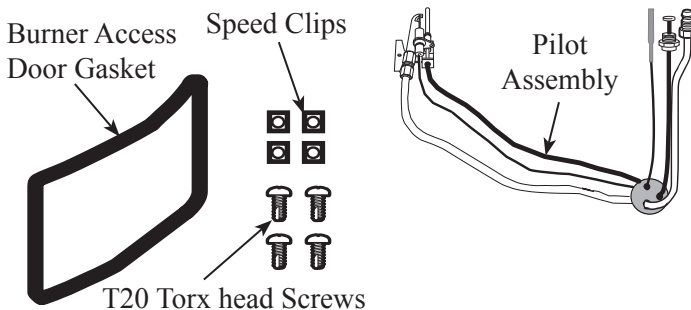

Figure 1
- Inspect contents for possible missing or damaged components. See Figure 1. This kit includes: